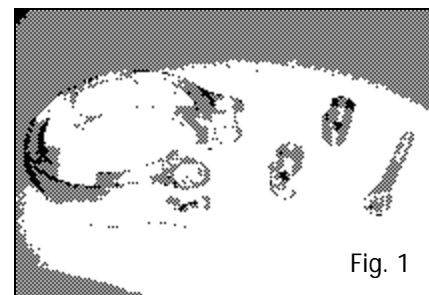

Fig. 1
3. The easiest way to attach the blow off valve is to remove the allen bolt and threaded sleeves from the v-band clamp (See Fig. 1). You will then be able to stretch the v-band clamp over the flange. Allow the clamp to slip completely over the flange (See Fig. 2).